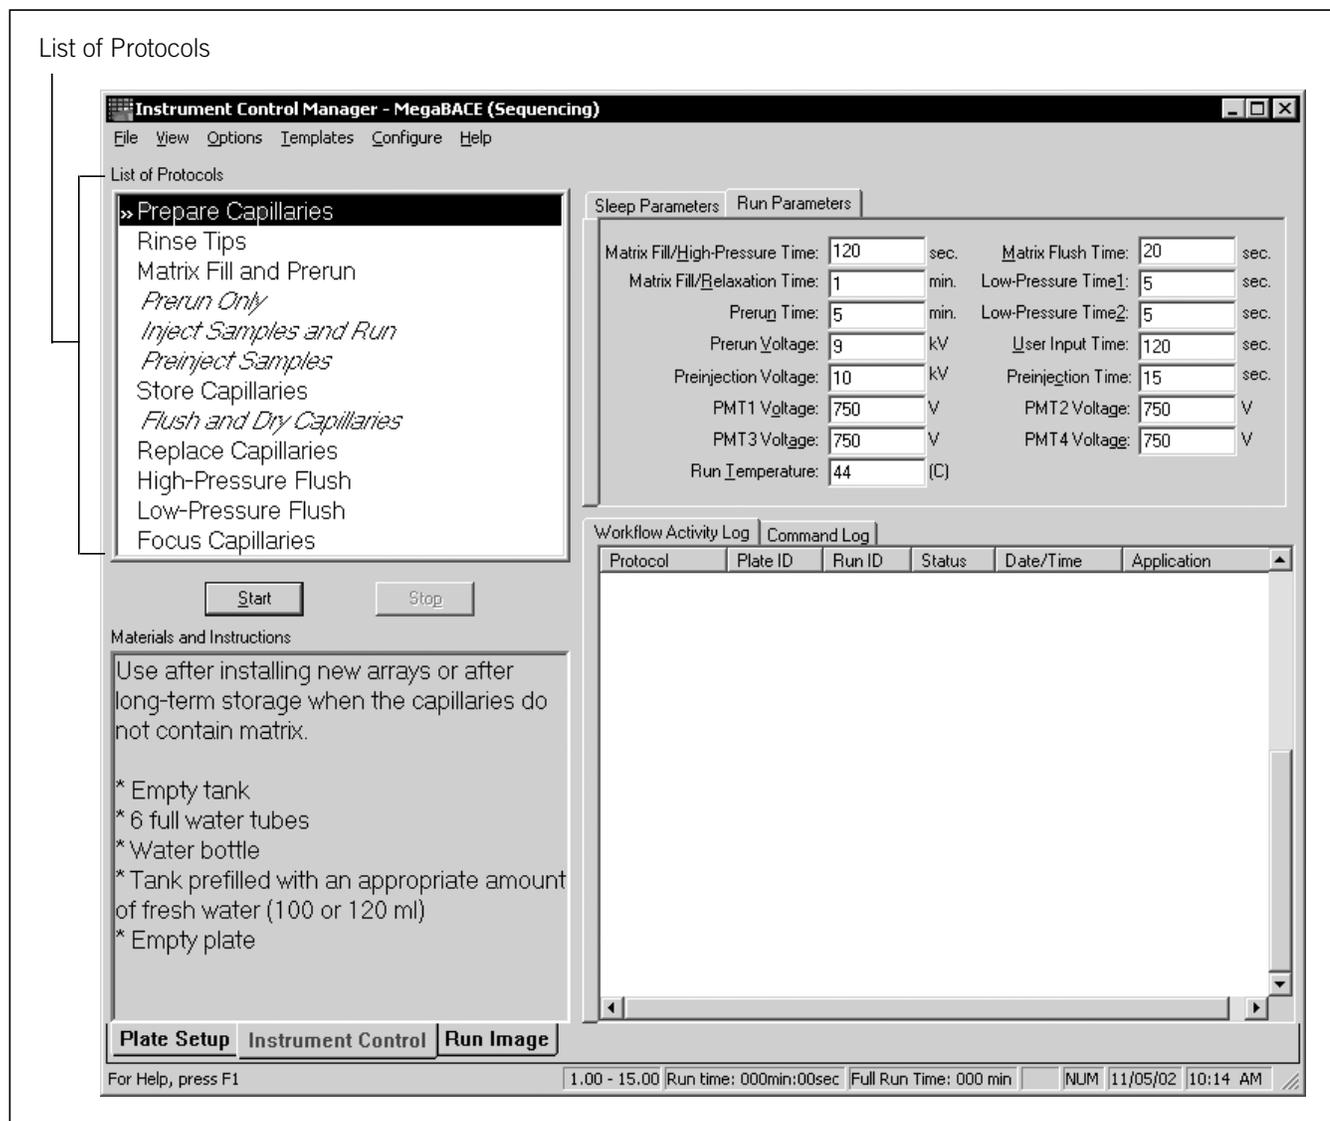

Figure 4-4. The Instrument Control window.
To display the other Instrument Control Manager windows, you click the corresponding tab at the bottom of the window. Figure 4-4 shows the Instrument Control window.
The Instrument Control window contains a list of the protocols you use to run the instrument. You use this window to step through the list of protocols (figure 4-4). Double arrows (>>) indicate the next protocol (default). The protocol names that are displayed in regular text are the currently available protocols. The protocols displayed in italic text are currently unavailable. Table 4-3 describes each protocol in the Instrument Control Manager.
1. In the Instrument Control window (figure 4-4), with the **Prepare Capillaries** protocol selected, click **Start**.